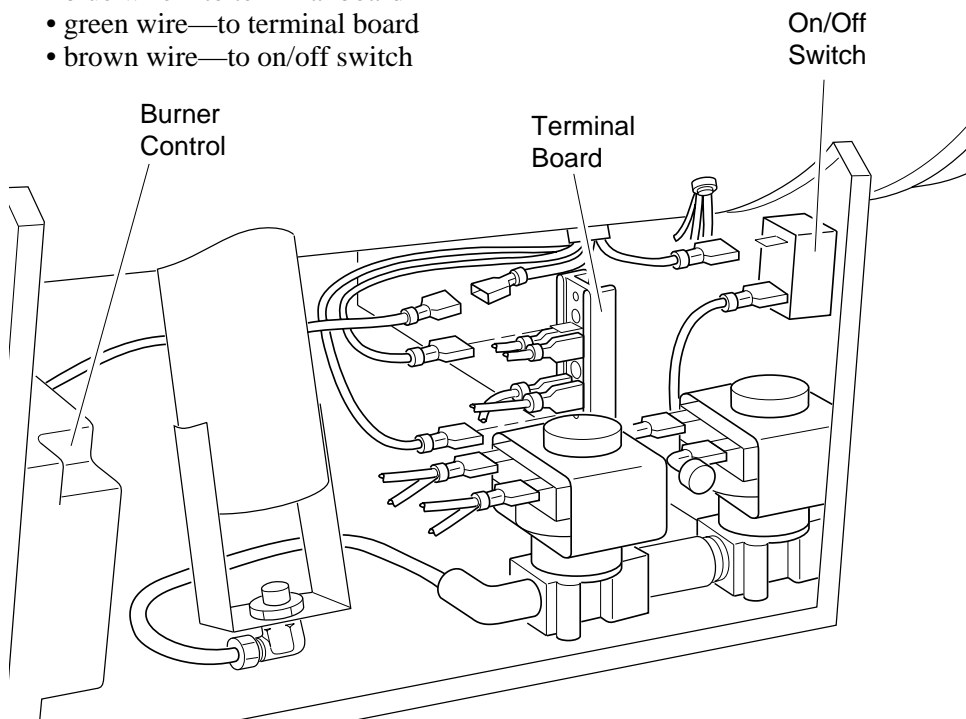

Figure 11 - Location of Motor Wires
3. Detach the four motor wires from parts under heater shell (see Figure 11). Be sure to detach only wires coming from motor. The four motor wires are:
21. Connect motor wires as follows (see Figure 11, page 12):